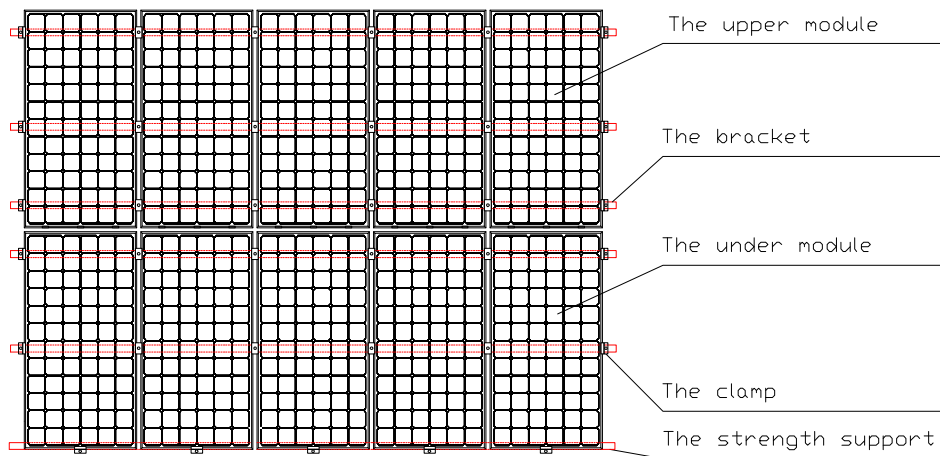

FIG 4 Schematic diagram of reinforcement mounting of module
- Notice: For the roof system installed in the area that ever experienced relatively heavy snowfall or snow cover, the customer shall reinforce the mounting system at the lower frame of the module, in order to prevent the lower frame from being pressed and damaged by the falling snow, and avoid the module damage due to melt snow freezing in daytime. CSUN suggests to selecting the support reinforcing mechanism shown in Figure 4.